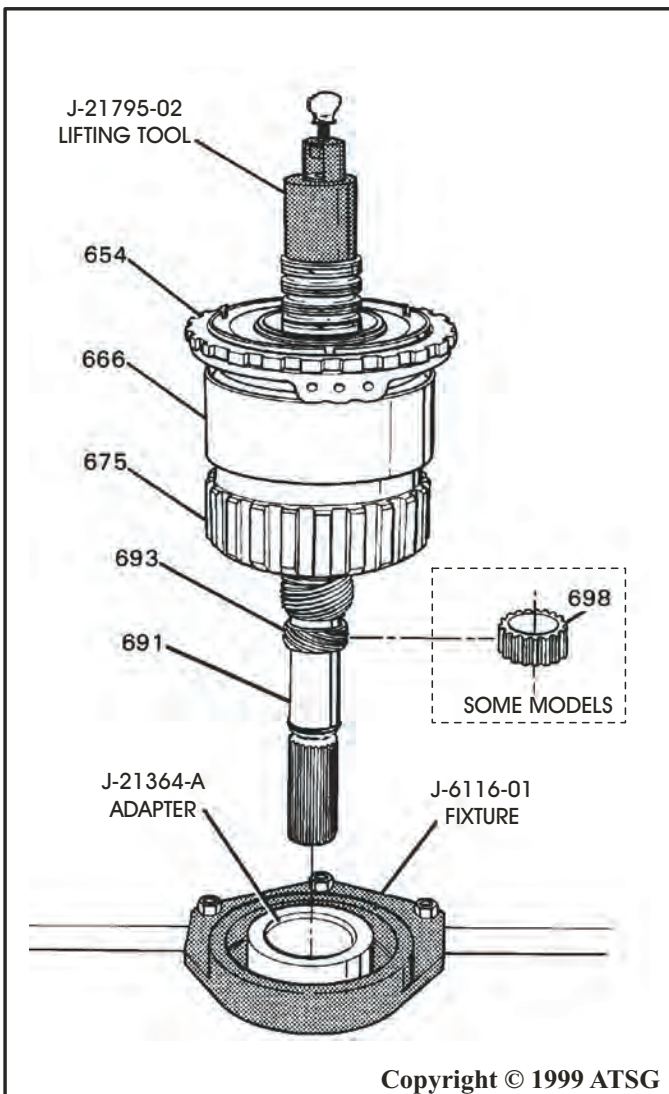

Figure 51
58. Set the entire gear train into holding fixture J-6116-01 using adapter J-21364-A, as shown in Figure 51, for disassembly of gear train.